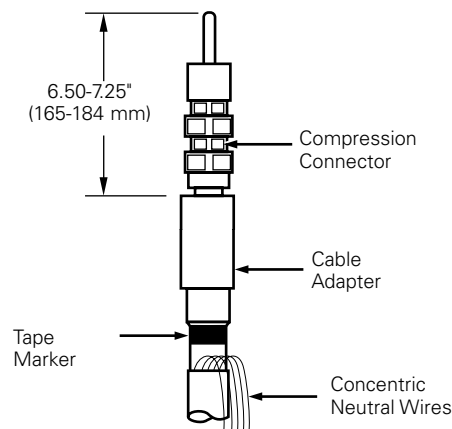

Figure 23. Line illustration for dimensional check.
- Length should be between 6.50-7.25" (165 - 184 mm). (Refer to Figure 23.)